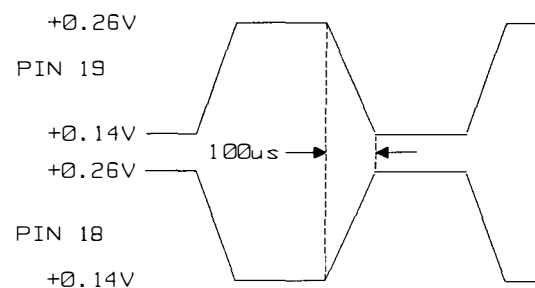

Figure 10.4-6. Shaper IC Input Signals on Pins 18/19
3. Use an oscilloscope to check the signals at pins 19 and 18 of U401 against Figure 10.4-6. Note that the signals on pins 18 and 19 are not necessarily symmetrical.